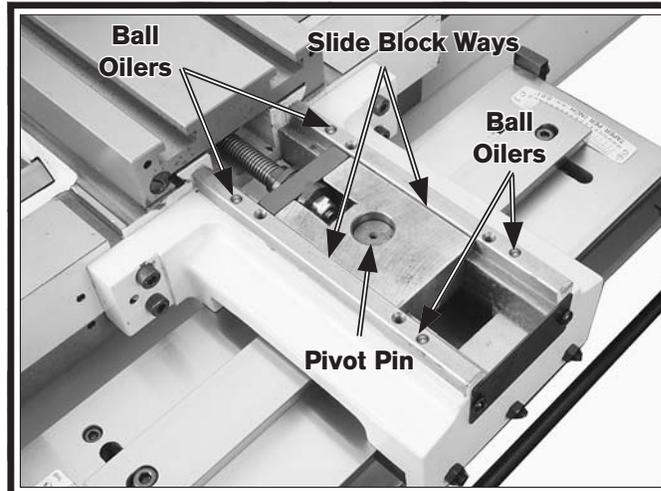

Figure 14. Lubrication locations.
21. Apply drops of oil liberally at all four way oil ports, both slide block ways, and the pivot pin shown in **Figure 14**.